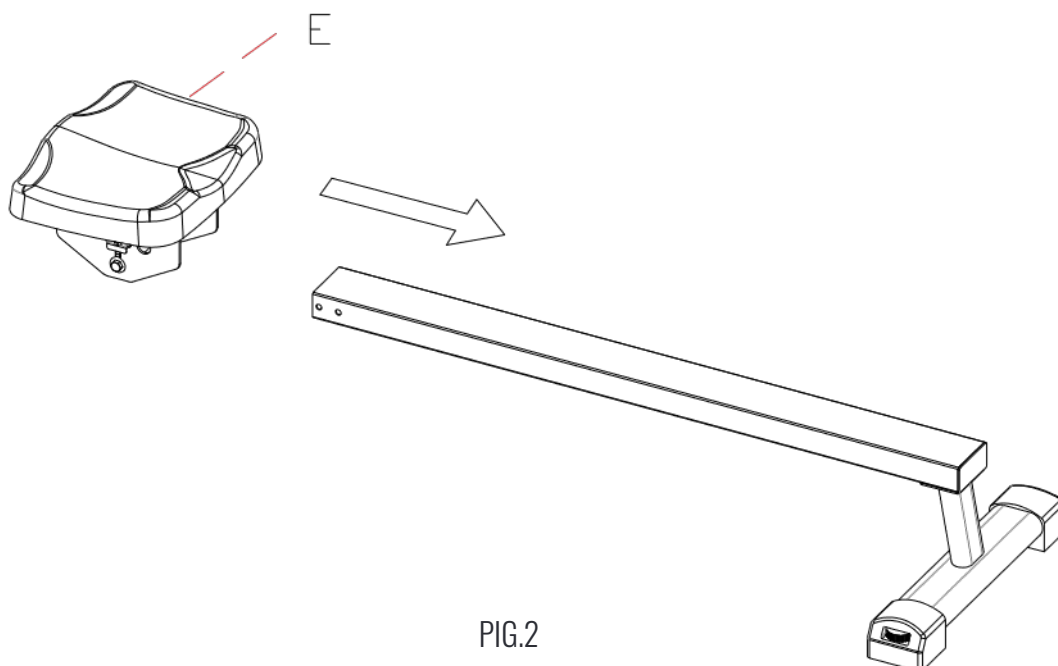

FIG.2
(2) Main frame outlet (P) and console holder outlet (O), please connect according to FIG.2.